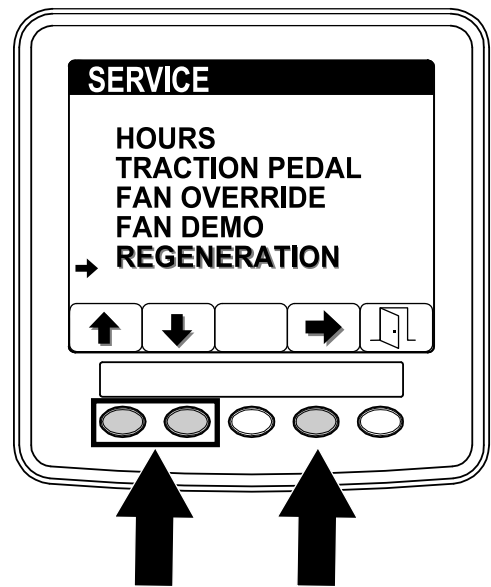

Figure 50
2. On the SERVICE menu, press button 1 or button 2 to navigate to the REGENERATION option, and press button 4 to select the REGENERATION entry (Figure 50).